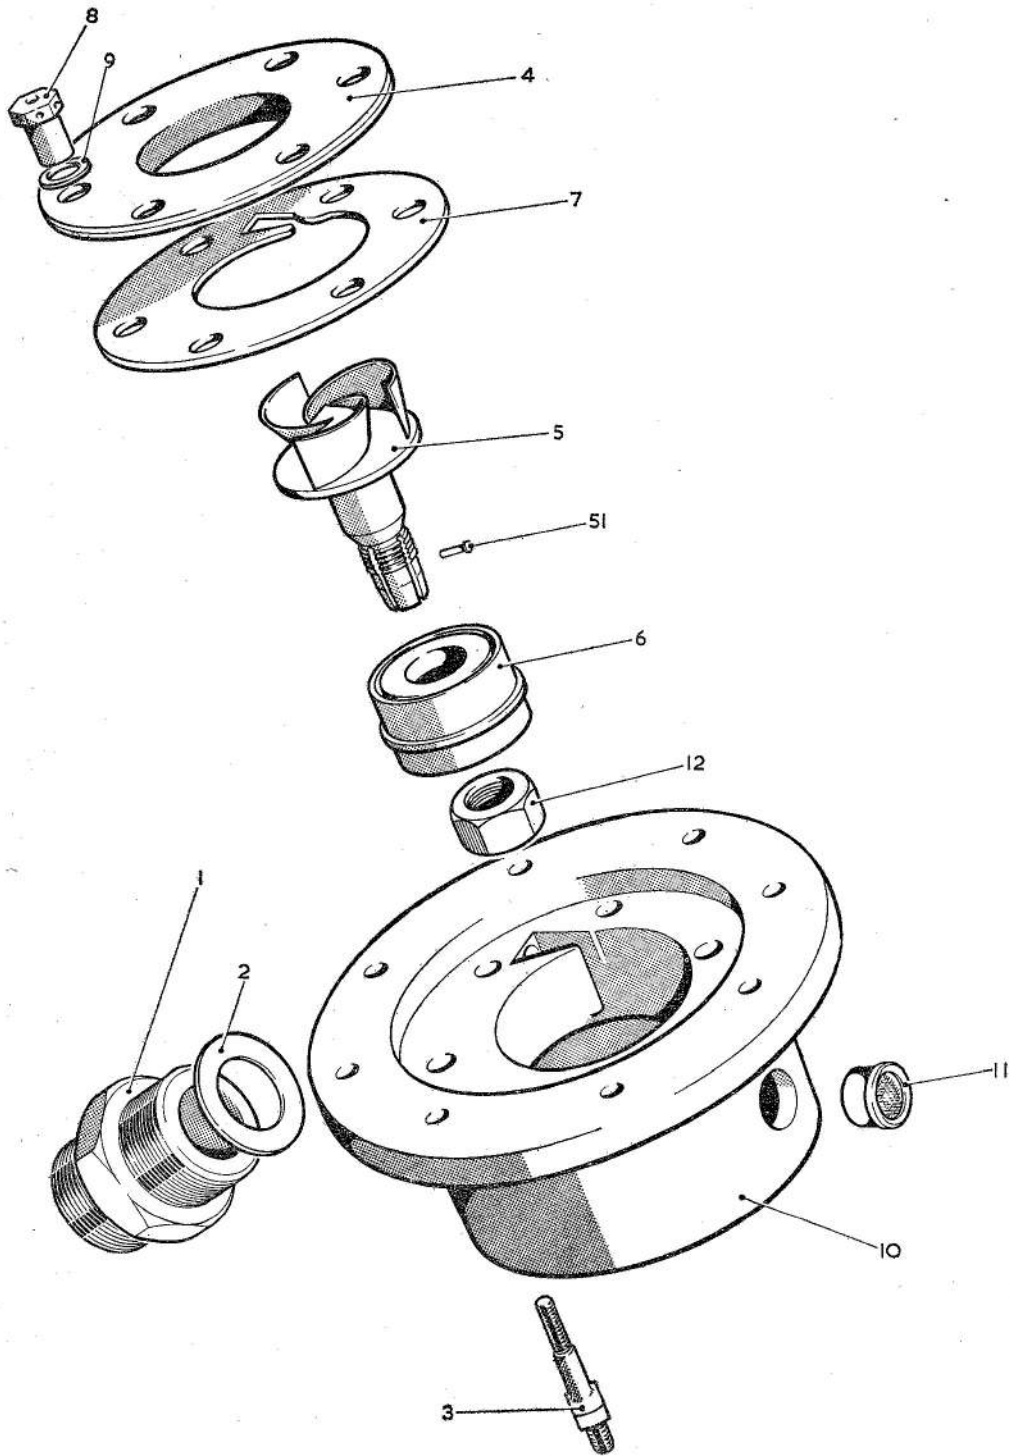

Fig. 2. Exploded view of pump unit components
Key to Fig. 2
- (2) Remove the cap nuts (8, fig. 2) and the joint washers (9). Withdraw the suction cover (4) and remove the joint washer (7) from the pump casing (10).
Removing the impeller (fig. 2 and 3)
- (2) Release the spring clip (37) and remove the motor end cover (36).
- (3) Disengage the tangs of the tab
washer (42), using a box spanner to hold the fan nut (41), unscrew the impeller nut (12, fig. 2) using the special spanner 96121 (fig. 4).
- (4) Withdraw the impeller (5) from the gland unit (6).
Removing the pump casing (fig. 2 and 3)